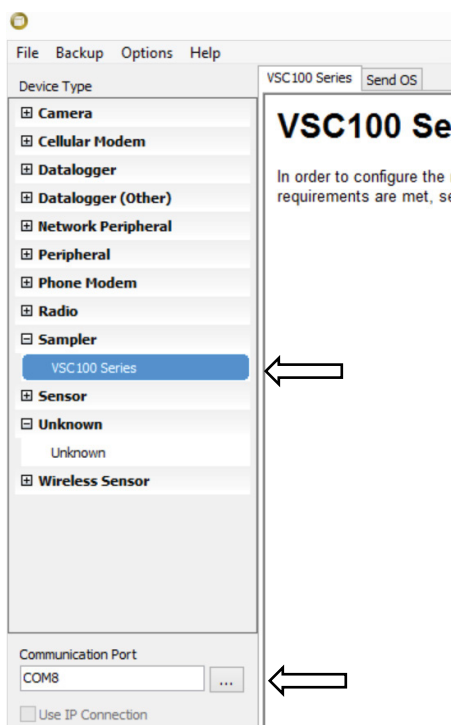

FIGURE 8-4. Device Configuration VSC100
2. Open *DevConfig*. Select the **VSC100 Series** under the **Sampler**. Click **Communication Port** and select the correct **COM port**. Click **Connect** (FIGURE 8-4).